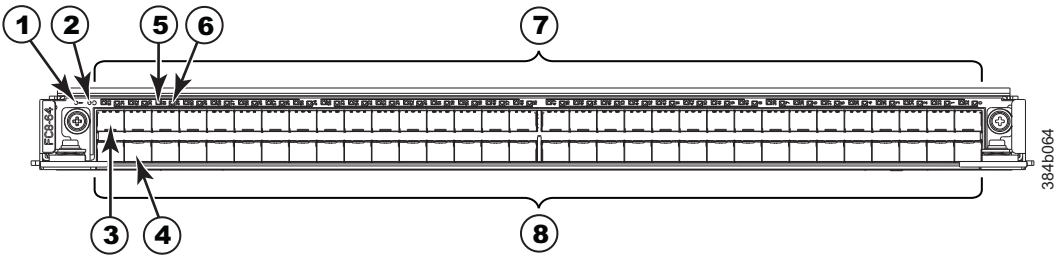

Figure 54. FC8-64 port blade
- Figure 54 on page 138 shows an FC8-64 port blade